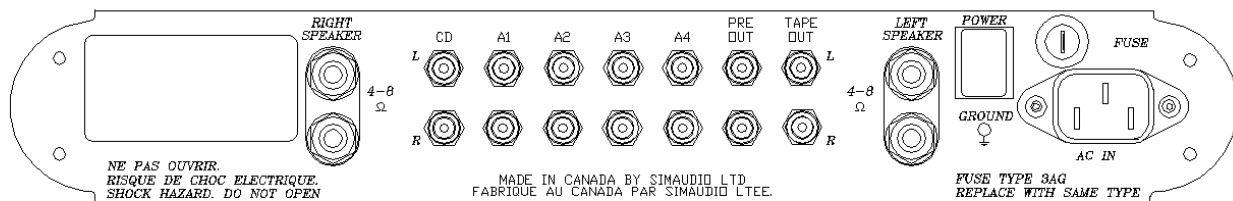

Figure 2: Rear panel of Moon i-5 Stereo Integrated amplifier
The rear panel will look similar to Figure 2 (above). There are five (5) pairs of single-ended inputs on RCA connectors labeled CD, A1, A2, A3 and A4. The left channel inputs are located on top and the corresponding right channel inputs are located directly below. The A4 input, as previously mentioned, bypasses the gain stage and is intended to be used with a component, such as a home theater processor, that has its own volume/gain control.